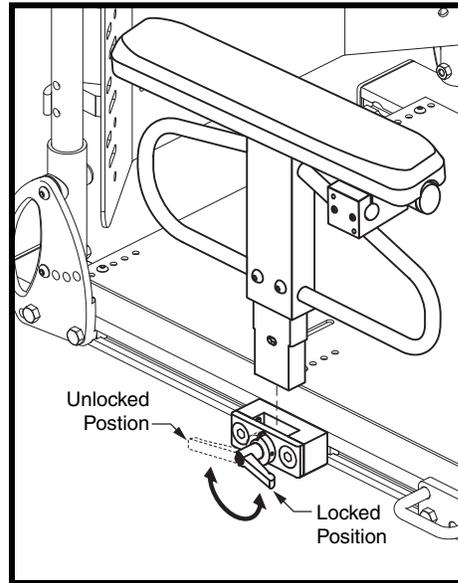

Figure 21. Heavy Duty Drop-In Armrest Removal/Installation
1. Rotate the armrest lock lever rearward. **See figure 21.**
1. Place the armrest assembly into the armrest lock. **See figure 21.**
1. Rotate the armrest lock lever rearward and remove the armrest from the armrest lock. **See figure 21**